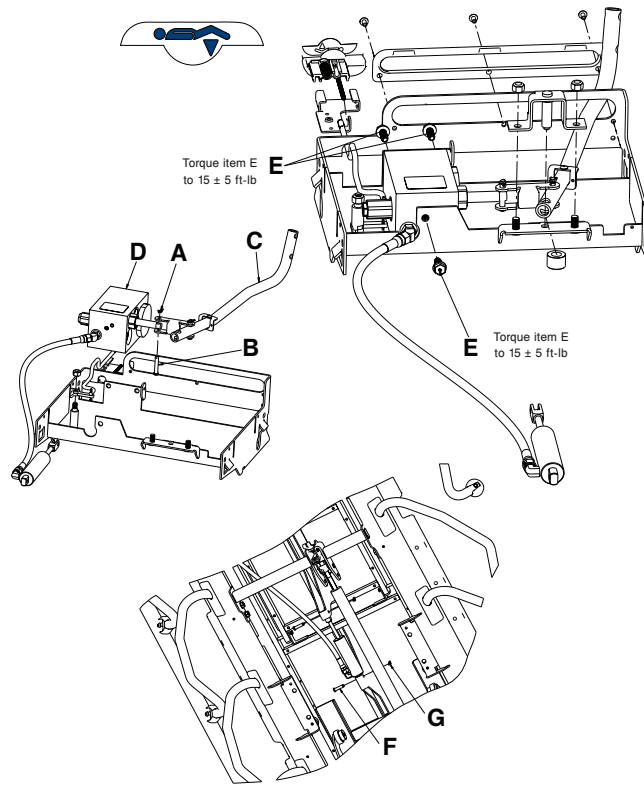

Figure 25 – Gatch valve body replacement
1. Using needle nose pliers, remove the rue ring cotter (A) and clevis pin (B) that secure the Gatch pump ram to the pump handle (C) (Figure 25).